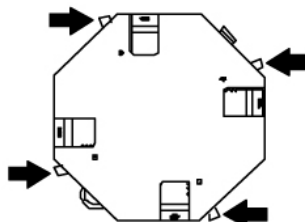

Figure 1
6. Push in the 4 ratchet brackets on head assembly firmly to contact sides of transmission (see Figure 1).